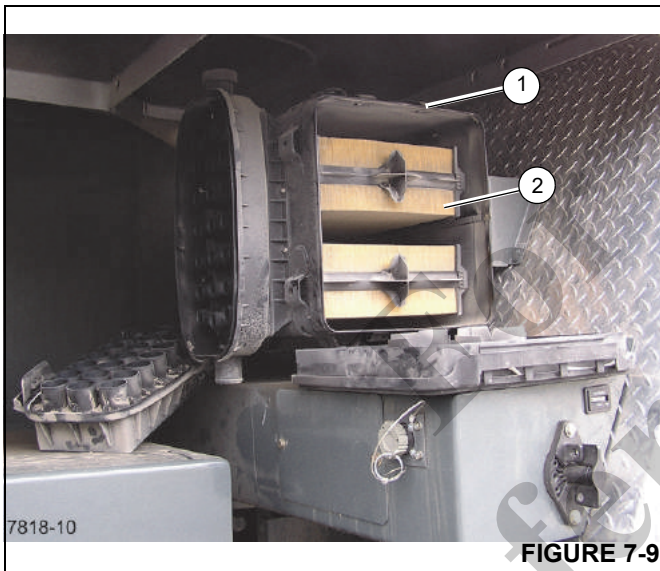

FIGURE 7-9
1. Lift the clips (1) (Figure 7-9) securing the cover to the air cleaner body and remove the cover.